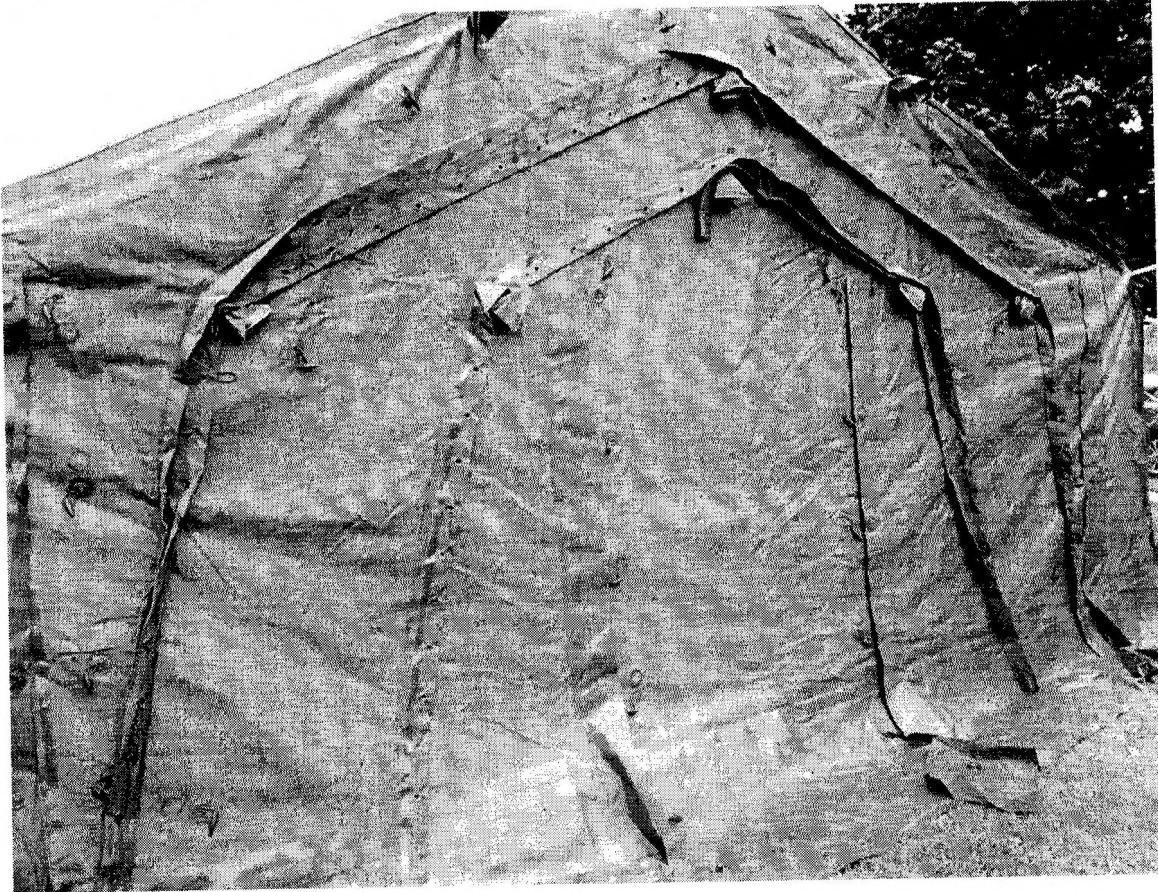

Figure 55: Dual End Wall (J11/8340-99-177-3894) alternative to (J11/8340-99-155-6628)
57. There are two (2) types of end wall available, the Profile End Wall (J11/8340-99-155-6628) (standard) and the Dual Attachment End Wall (J11/8340-99-177-3894) Fig 55. The latter enables connection to the 12 x 12, porch and passageway tents.